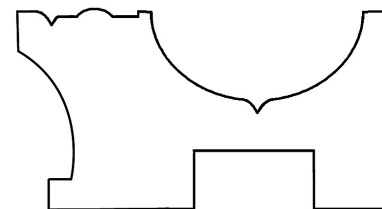
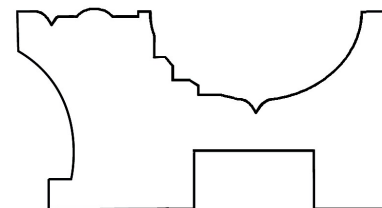

Figure A-6
Figure A-7
**STEP SIX:** Use a 1/4" half bead bit to create the buttons (Fig A-6). These buttons are positioned approximately 5/8" from the outside edge, and spaced 1/2" apart. You may want to run a test piece to determine the best plunge depth of the router bit.
**STEP SEVEN:** Use a 1/8" up-cut spiral bit to clean an edge next to the 1/4" beads (Fig A-6). This same bit is used to create the straight lines and scalloped pattern on the inside curve (Fig A-7).